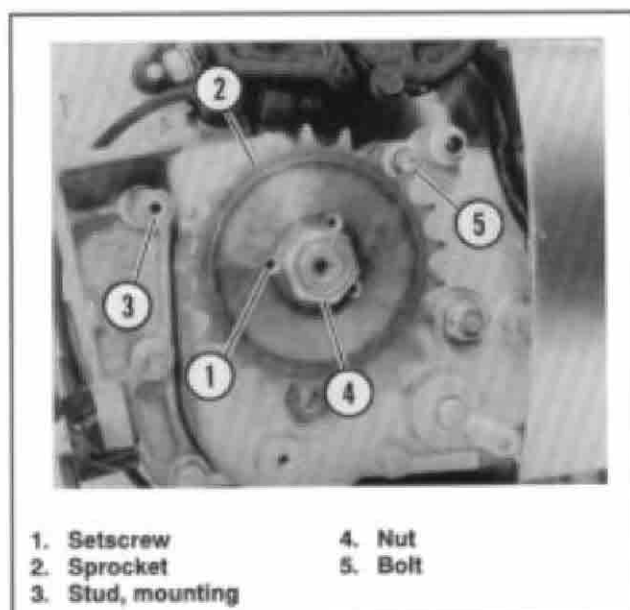

Figure 3. Sprocket Removal
13. See Figure 3. Remove transmission sprocket setscrew (1). Hold transmission shaft from rotating by placing transmission in gear, or by inserting a hardwood wedge between transmission sprocket and lower front sprocket cover stud. Remove sprocket nut (4) and transmission sprocket.